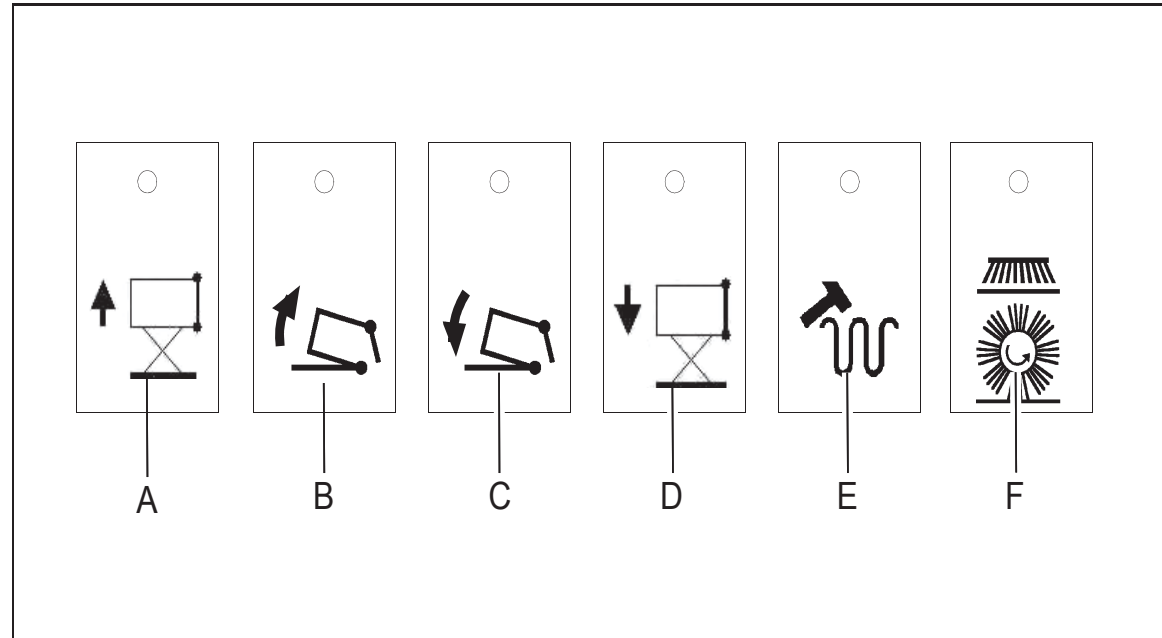

Fig.7
1. Switch off the sweeping functions with the button (Fig. 7/F). The filter agitation system is activated.
2. Agitate the filter too, if necessary. To do this, actuate the button (Fig. 7/E).
3. Raise the dirt hopper. To do this, press and hold the button (Fig. 7/A) until the hopper is lifted to the height required.
4. Drive backwards, slowly! Empty the dirt hopper. To do this, press and hold the button (Fig. 7/B) until the dirt hopper is pivoted vertical.
5. Pivot the dirt hopper back again by pressing the button (Fig. 7/C).
6. Drive the Sweepmaster away from the garbage container and lower the dirt hopper to its end position using the button (Fig. 7/D). The end position is detected and the dirt hopper is pivoted back automatically, if necessary.